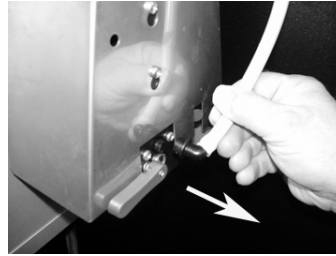

Figure 13a
- **Figure 13a** - Remove the Coffee Brewer outlet spout.
- Refit the outlet elbow (Fig 13a).